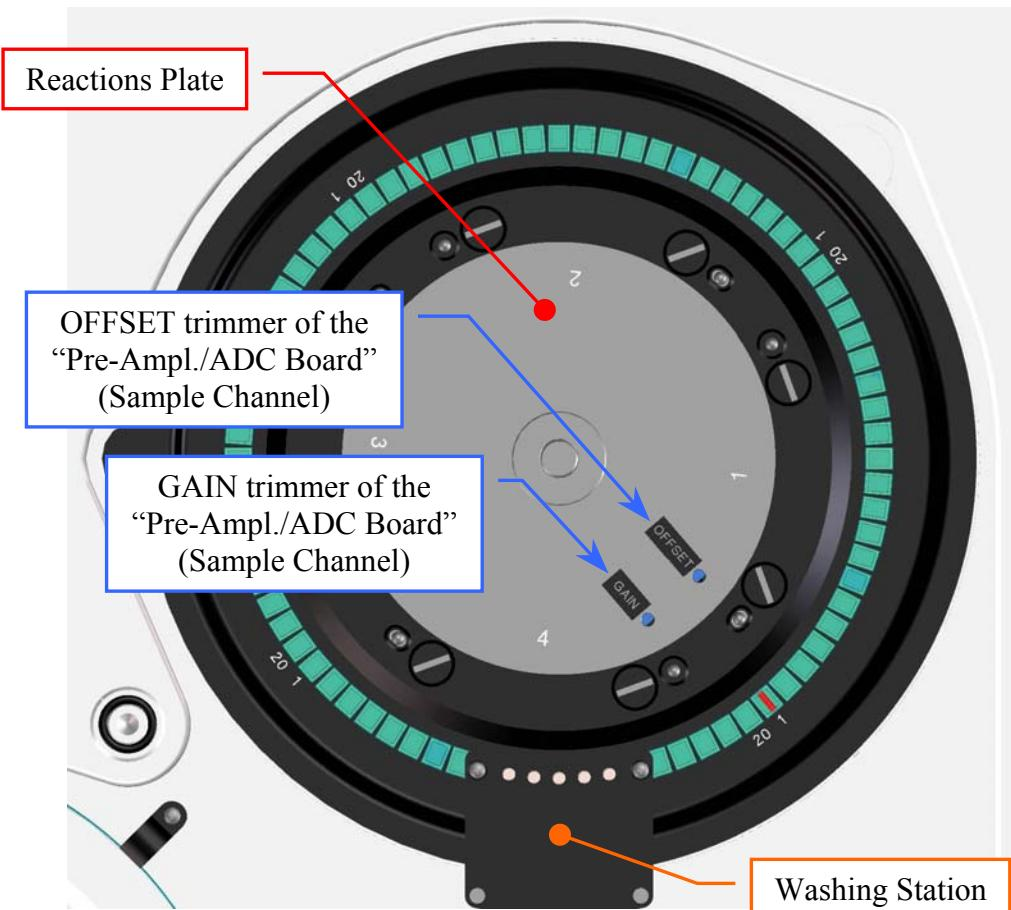

Fig. 53 – GAIN and OFFSET trimmers of the “Pre-Ampl./ADC Board” (Sample Channel)
- Click the “Dark” button, click the "START Sample Channel Conversion" button and make sure that the adjacent text box shows a counts value equal to **100 ± 50** . If it not be so, turn the OFFSET trimmer of the “Pre-Ampl./ADC Board (Sample Channel)” in order to set the correct counts value (**Fig. 53**).
13. Make sure that the counts value of the filter which transmits the highest signal (for the Sample Channel) is between **58.000** and **62.000**. If it not be so, turn the GAIN trimmer of the "Pre-Ampl./ADC Board (Sample Channel)" in order to set the correct counts value (**Fig. 53**).